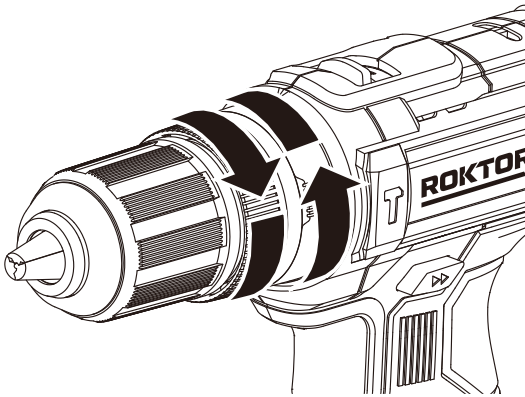

Figure 8
4. TORQUE ADJUSTMENT (SEE FIG. 8)